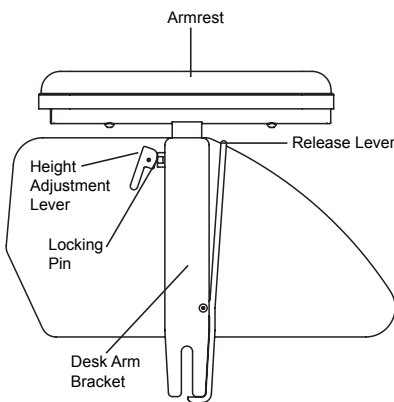

Figure 43
1. Pull up on the height adjustment lever to permit the armrest to be raised or lowered to the desired height. See Figures 43 and 44.
1. To remove the desk arm assembly, press and hold the armrest release lever. See Figures 43 and 44.